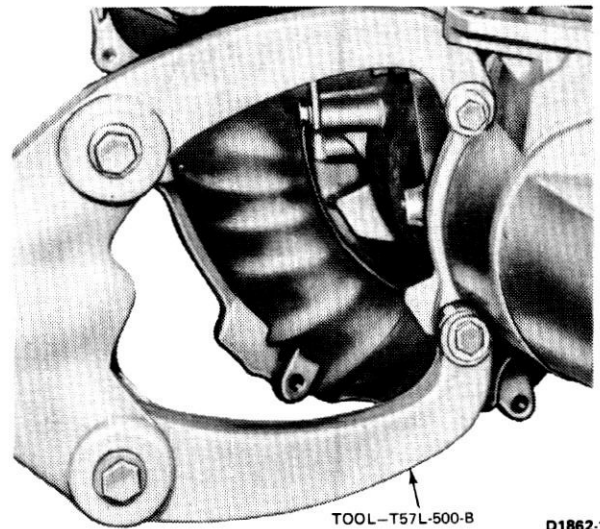

FIG. 15 Transmission Mounted in Holding Fixture
4. Remove the two extension housing-to-case bolts shown in Fig. 15 and mount the transmission in the holding fixture.